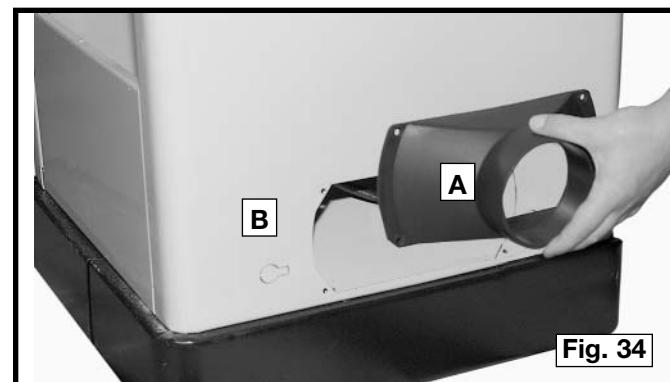

Fig. 34
The Unisaw is supplied with a dust chute adapter to connect a 4" diameter dust collector hose to the machine. Align the four holes in the adapter (A) Fig. 34 with the four holes in the back of the saw cabinet (B). Attach the dust chute adapter with four #10 x 1/2" sheet metal screws.